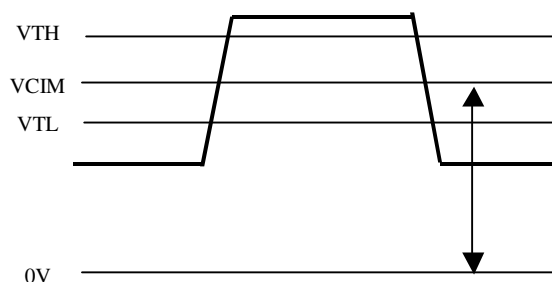

Figure 2 : LVDS Differential Voltage
4. Measurement of LVDS differential voltage is shown in Figure 2.